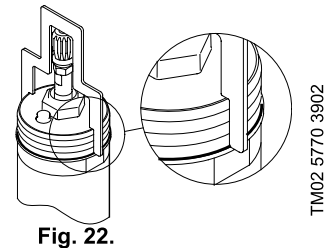

Fig. 22.
2. Screw the shaft end pos. 24 on to the motor shaft and push it home. Adjust the height to $88.15 \text{ mm} \pm 0.2 \text{ mm}$ by means of the measuring template I, see fig. 22.
4. Fit the supporting ring pos. 24a and the spline protector pos. 24b.
5. Fit the connecting piece pos. 14a and tighten using the pipe wrench N.
6. Fit the pump to the motor. The cable recesses in the suction interconnector pos. 14 and the connecting piece pos. 14a must be next to each other. Fit the four nuts pos. 19a and tighten diagonally to the correct torque, see 5.3.
8. Fit the cable guard pos. 18c and secure it with screws pos. 18a.
9. Fit the cable guard pos. 18 and secure with screws pos. 18b (25 SQF).